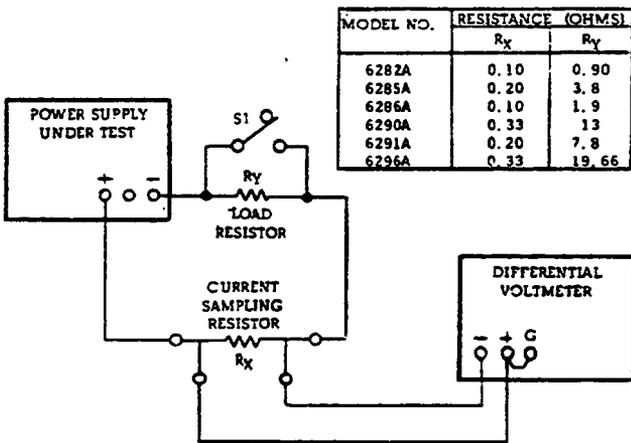

Figure 5-4. Output Current Test Setup
- Connect test setup shown in Figure 5-4, leaving switch S1 open.
- Connect test setup shown in Figure 5-4.
a. Utilize test setup shown in Figure 5-4 leaving switch S1 open throughout test.
a. Use test setup shown in Figure 5-4, except connect AC voltmeter across sampling resistor instead of differential voltmeter.